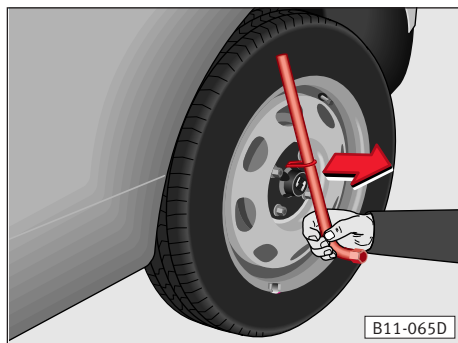

Fig. 136
- Remove **central cover¹⁾** with the wheel spanner and the wire hook*. Place the wire hook in the two holes of the SEAT symbol. Pass wheel spanner through the hook and remove cover ⇒ fig. 136. ■